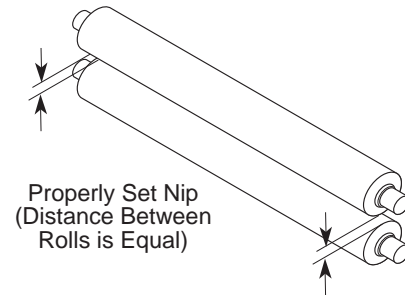

Figure 4-3: Properly Set Nip
5. Adjust the nip by turning the adjusting bolt using an $\frac{3}{4}$ " open end wrench (clockwise to lower the roll end and counter clockwise to raise the roll end). Adjust the ends of the upper main roll until there is an even gap between the rolls as shown in Figure 4-3.